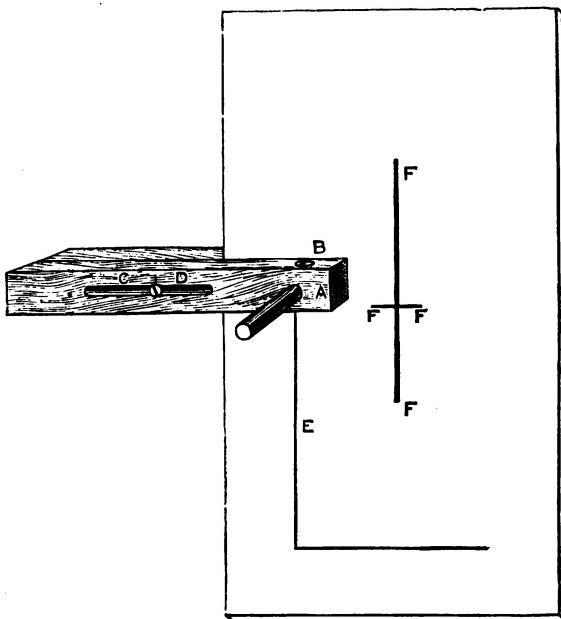

FIG. 18. MARKING AND CUTTING GAUGE.
part even of this will be bevelled off, so as to make the frame look light ; for if made thicker, it is sure to look clumsy and heavy. The strips having to be cut from a board of the necessary thickness, the latter will have to be marked by setting a carpenter's gauge to the width, in this case, a shade over  $\frac{1}{8}$ in., to allow for planing. The carpenter's gauge may be modified by constructing it like Fig. 17, which shows the gauge on a larger scale. Fig. 18 illustrates the same in actual use. It is made of two pieces of hard wood, being a plain squared block, and (A) a longer